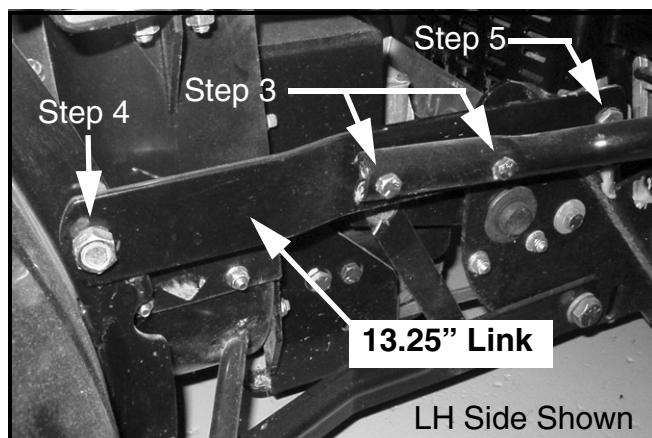

FIGURE 2
3. Using a 1/2" socket and ratchet and a 1/2" box wrench, remove the two 5/16" hex head bolts and nuts securing the left side chute directional control tube. See Figure 2.